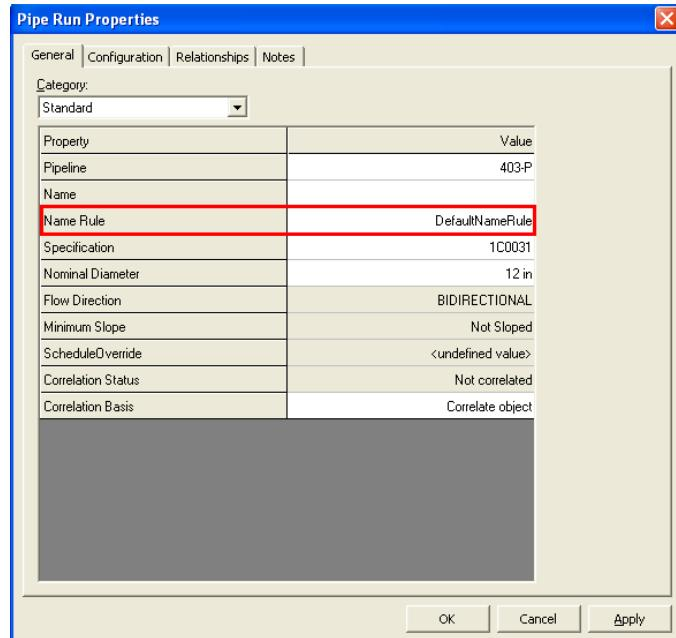

Figure 39: Pipe Run Properties Dialog Box
4. Select the **DefaultNameRule** option in the **Name Rule** drop-down list on the **Pipe Run Properties** dialog box, as shown in Figure 39.